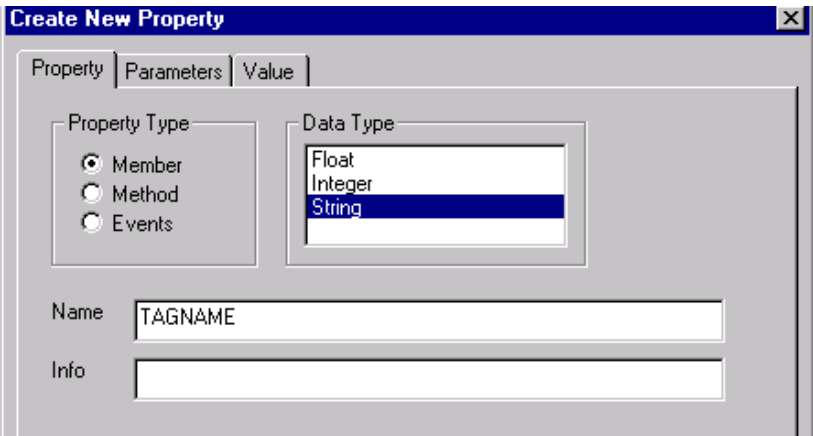

Figure 142. Create New Property Dialog
- c. Click **Add**. This displays the Create New Property dialog, Figure 142.
- d. Select, **Member** Property Type, **String** Data Type, and then enter **TAGNAME** in the Name field, Figure 142.